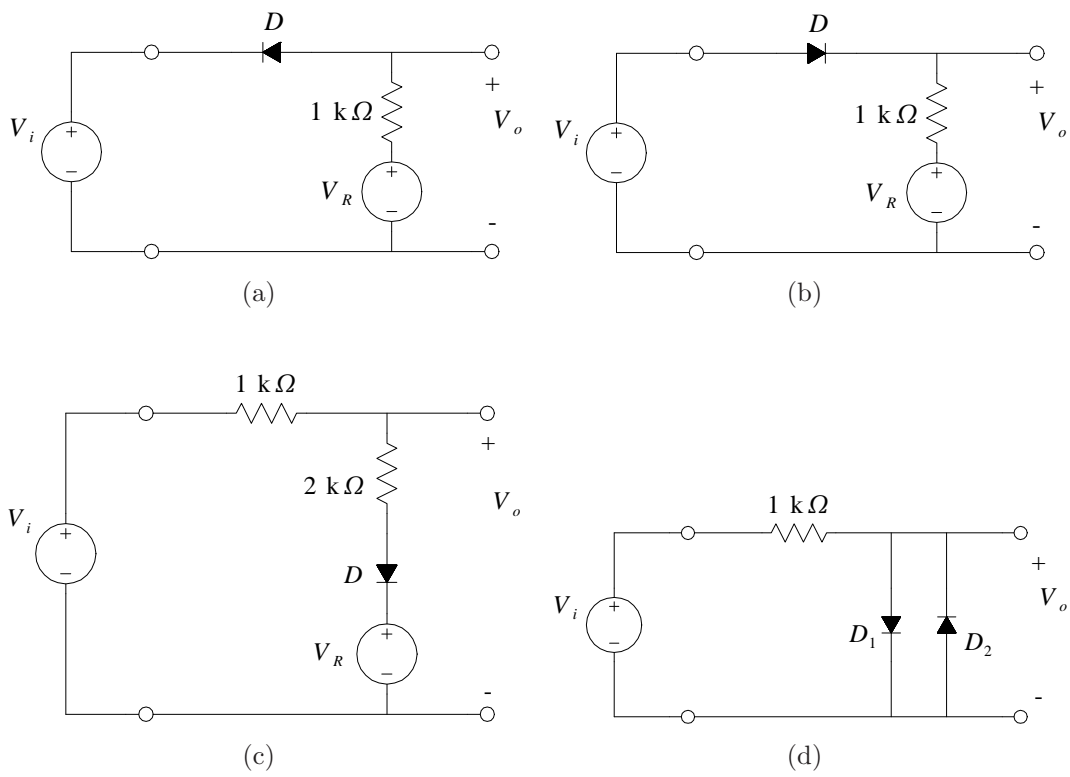

FIGURE 1 – Wave shapers and clippers
1. For each of the circuits in figures 1(a), 1(b), 1(c) :
2. Build the circuit of figure 1(d).